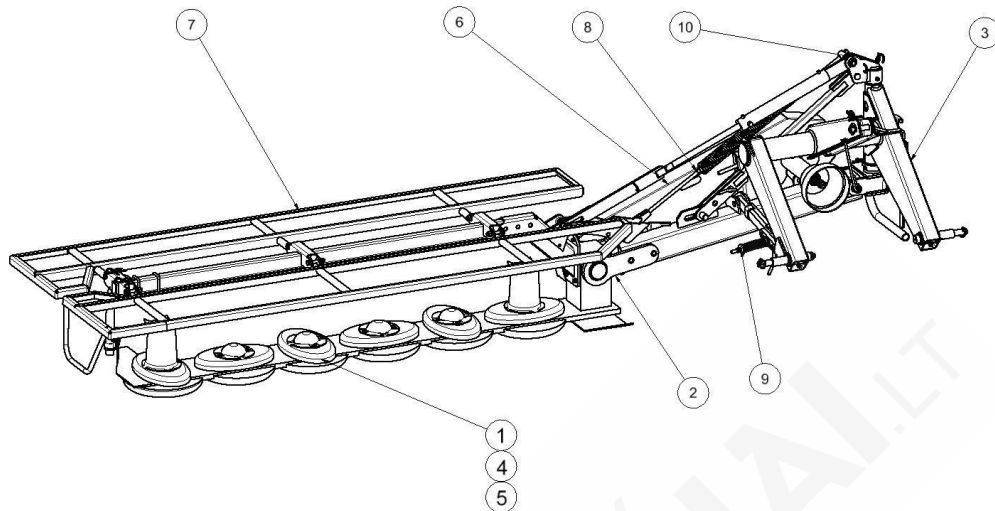

Fig. 3 Construction of the disc mower Z-030
Suspending points for lines (12) are indicated in Fig. 3